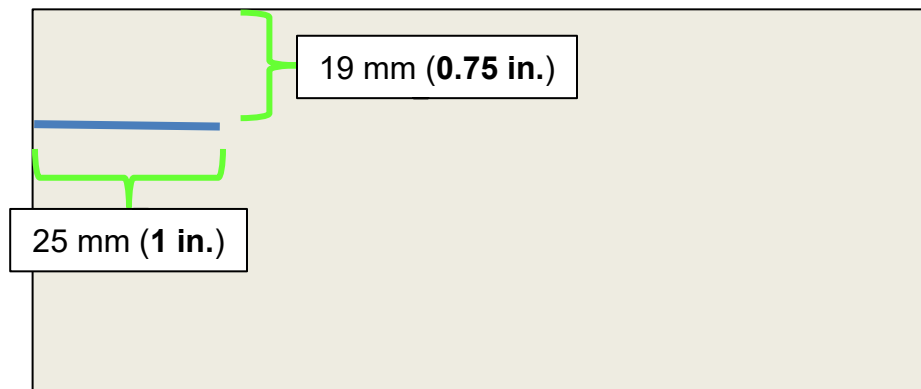

Figure 35
44. On the foil side of one (1) of the four (4) Butyl Patches, measure and mark a line, as shown in Figure 35, and then using scissors cut along the line.